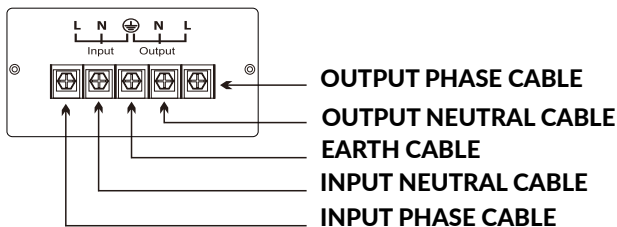

FIGURE 1
3.3 For Alvis 3000 and 5000 make wiring connection as shown in **Figure 1**.